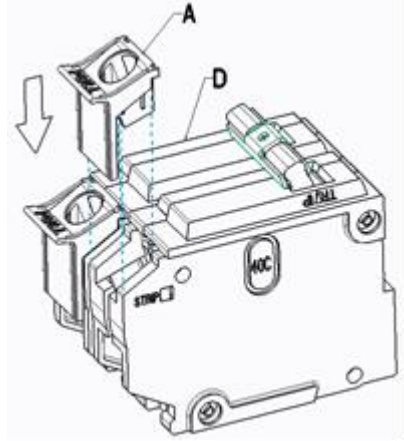

Figure 1: Insert Service Barrier onto Main Circuit Breaker
2. Insert the Service Barriers (A) onto line side of circuit breaker (D) as shown in **Figure 1**. Two Service Barriers included with the kit, need to assemble to both the poles.